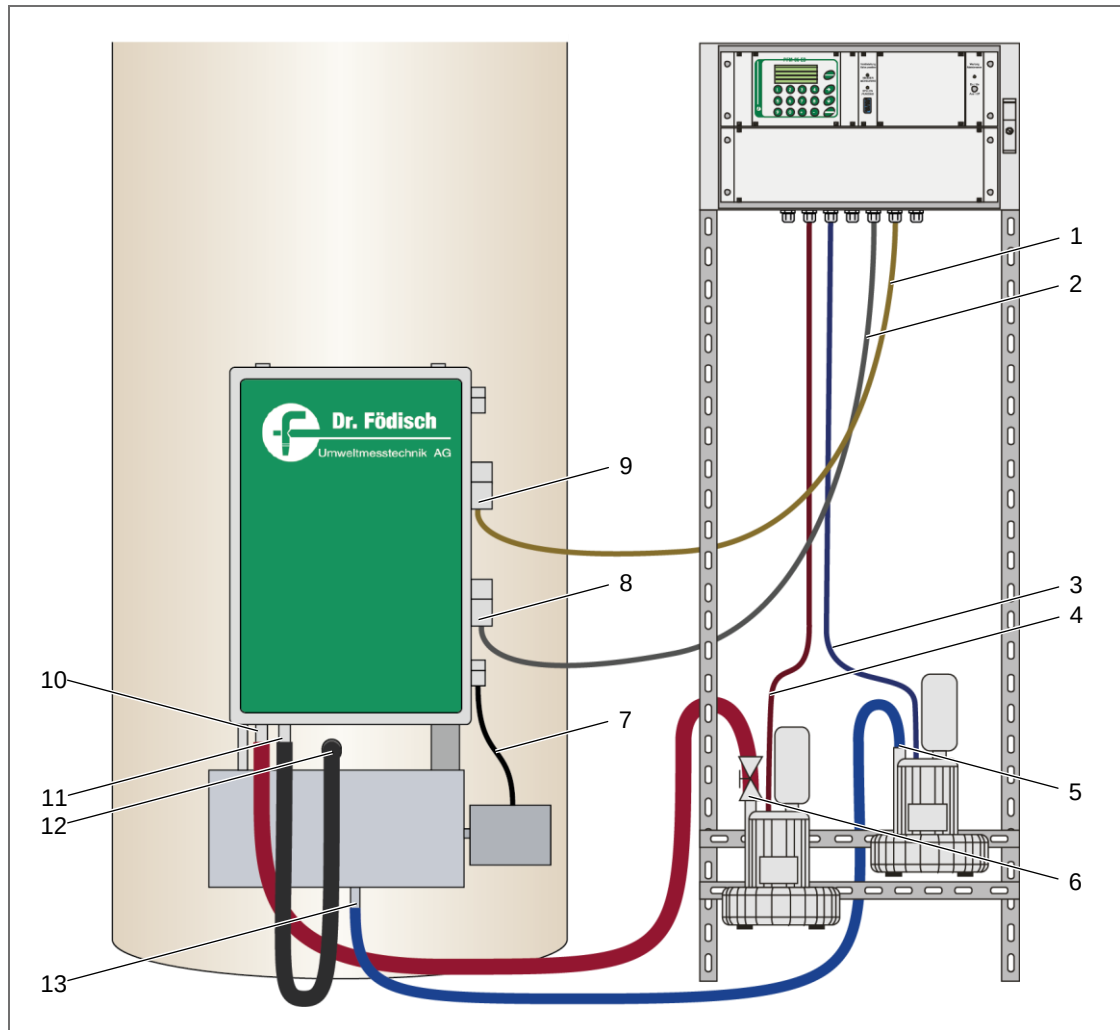

Fig. 20: Gas and electrical connections
1. Connect the hose for injector air with the respective connection (6, Fig. 20) at the blower outlet and secure it with a hose clamp.
2. Connect the hose for dilution air with the respective connection (5) at the blower outlet and secure it with a hose clamp.
3. Connect the exhaust hose with the exhaust connection (11, Fig. 20, page 37) of the probe and secure it with a hose clamp.
2. Connect the plug of the low-voltage cable for signal transfer (1, Fig. 20, page 37; white coating) with the respective plug-in connector (9) at the probe and secure it with the aid of the fastening clip at the socket.
3. Connect the plug of the power cord for the probe (2; grey coating) with the respective plug-in connector (8) at the probe and secure it with the aid of the fastening clip at the socket.